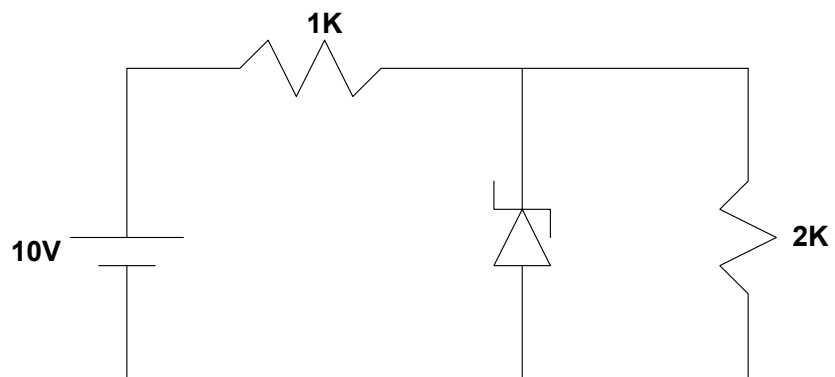

Figure 3
3. In figure3, calculate the current folwing through the Zener diode assuming that its Reverse breakdown voltage is 6V (8 points)